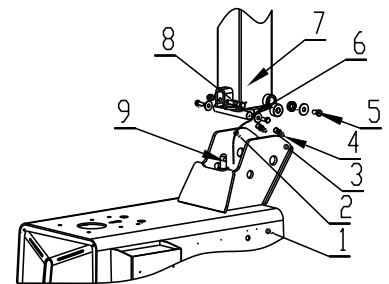

Fig 3
2) As shown in (Figure 3), install the inverted arm 7 into the square hole position on the chassis 1, allowing the air tube 2 to pass through the round hole on the chassis.